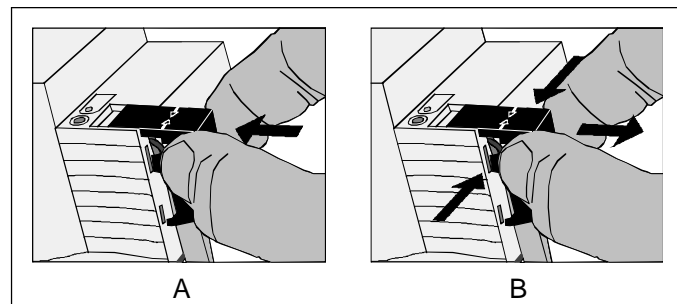

Fig. 4: Installing / removing the protective cap
- To install the cap: slide the cap over the bus connecting terminal until it is heard to engage (cf. Fig. 4.A).
- To remove the cap: Remove the cap by pressing the sides slightly and by pulling it out to the front (cf. Fig. 4.B).